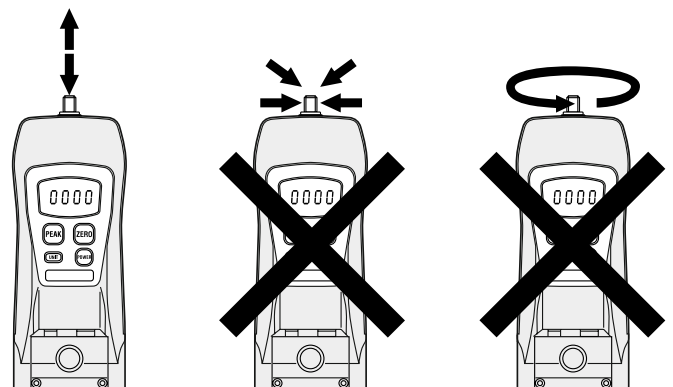

Fig. 1
**NOTE:** It is very important that you measure forces (tension or compression) that are in line with the measuring shaft and not at any angle (see fig. 1). Failure to observe this directive will damage the instrument. Also, after the gauge is positioned and ready to take a measurement (with the proper attachment in place) tare the unit by pressing the ZERO switch. In the PEAK mode to clear the display for another measurement press the ZERO switch.